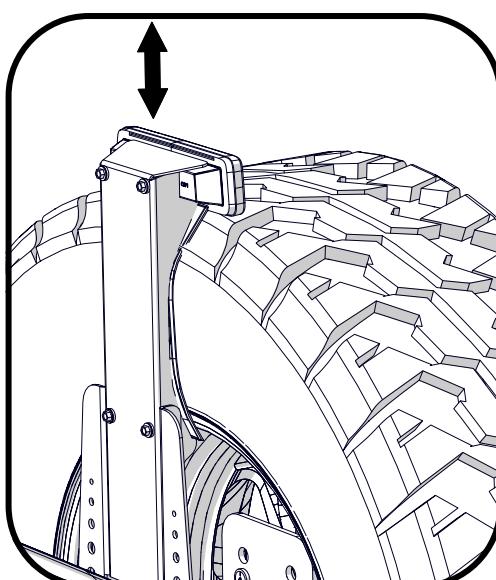

Figure 6
6. Lift the spare tire back in place and loosely install one lug nut to hold the tire in place. Open the tailgate for easy access to adjust the light mount up or down. (Figure 6)